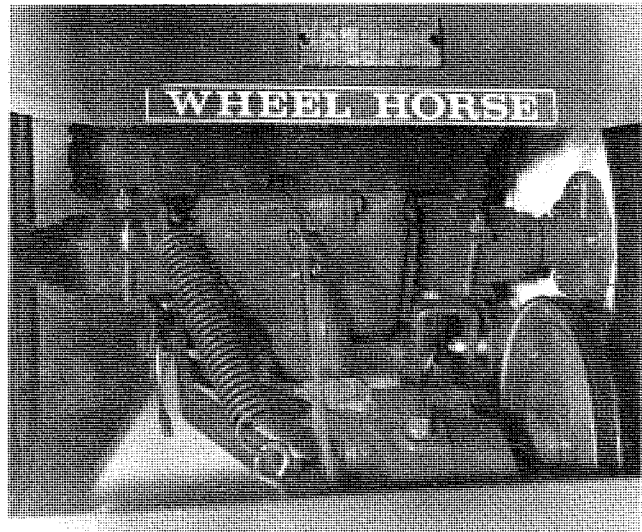

Fig. 2. Lift Cable and Clevis with Rear Hitch Installed
Install the rear hitch on the axle as shown in Fig. 2. Angle spacers (72) are used to fill the gap between the bolts and the axle housing on mechanical transmission tractors. These spacers are not used on automatic transmission tractors.